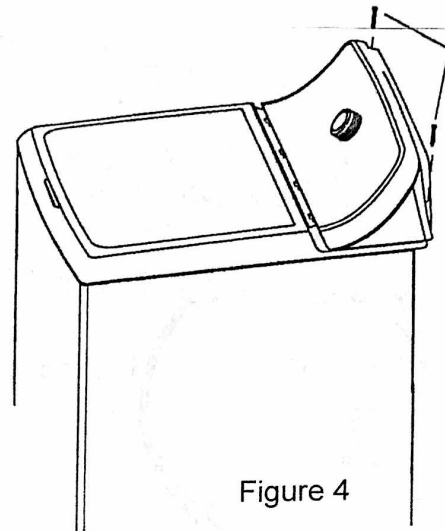

Figure 4
Step 7- Remove two 1/4 inch Hex Head Screws securing the backsplash to the top cover. See figure 4.